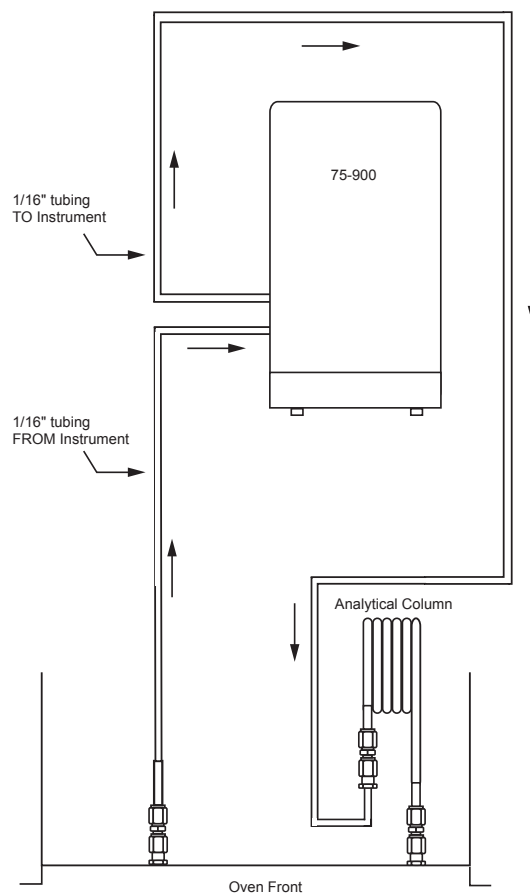

Figure 5: Series 590 DID GC without Pre-column
B. Instruments Without A Pre-column (Series 590 DID GC Systems 1, 7, 8, 10, 11, 12, 16, & 17) Refer to Figure 5.